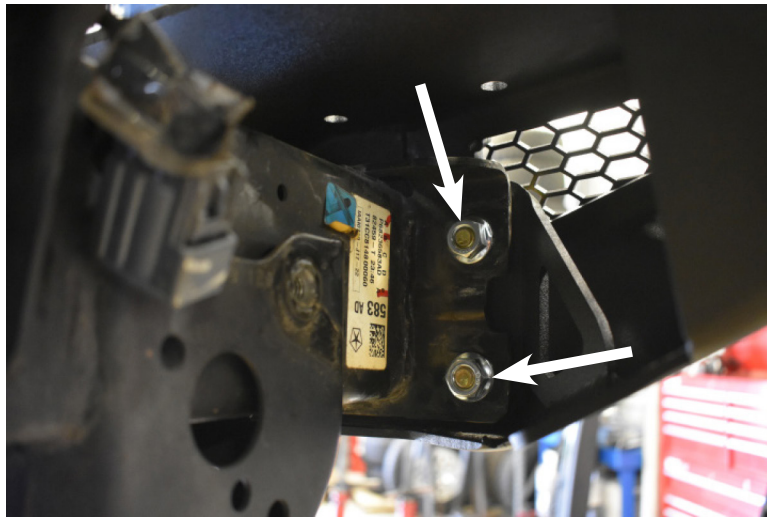

FIGURE 9
PLACE BUMPER ONTO FRAME RAILS AND ALIGN EIGHT (8) 7/16" BOLTS WITH THE OE FRAME HORN BRACKET HOLES (**FIG. 9**). FASTEN ALL 7/16" BOLTS WITH SERRATED FLANGE NUTS AND TORQUE HARDWARE TO 68 FT-LBS.